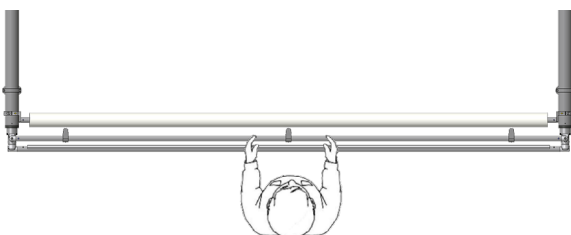

Fig.21
**A.** Stand behind the roller facing the front of the boat and grab the canvas and roller with both hands (Fig.21).